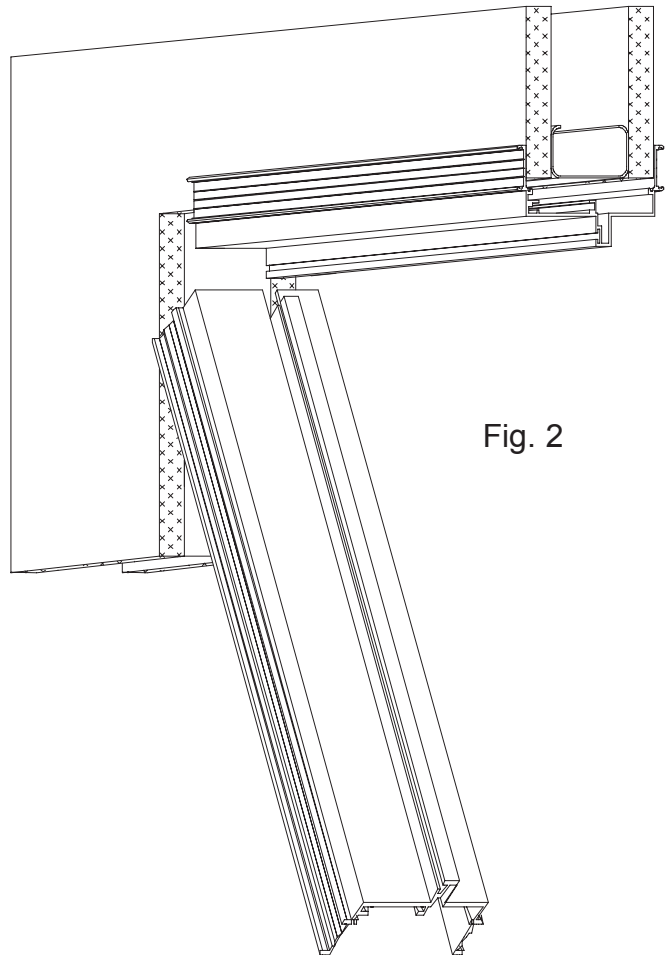

Fig. 2
5. Hold jambs at an angle and slip the upper portion over the wall. Push upward to engage notch with door stop on header, then push the rest of the jamb over the wall. (Fig. 2)